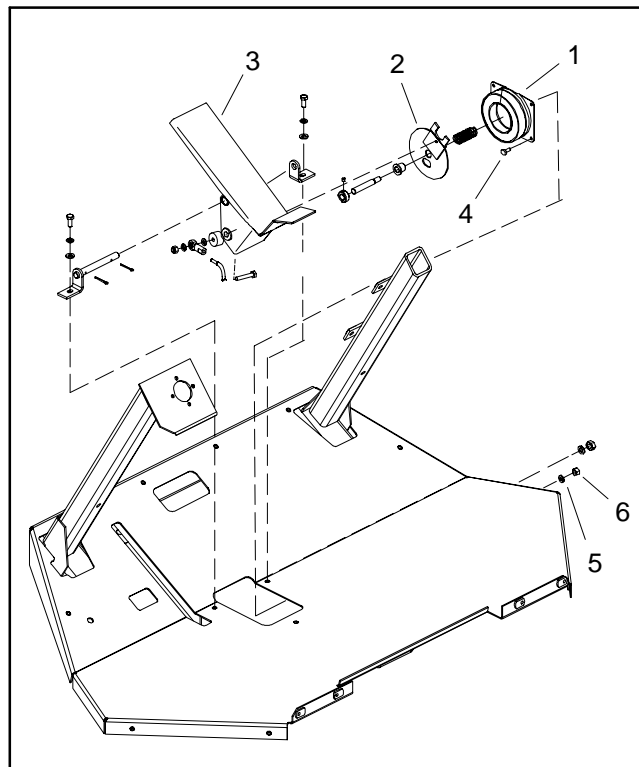

Figure 22
1. Make sure ignition switch is off. Locate speed lock coil next to traction pedal under the floorboard (Fig. 22). Unplug coil connector from machine wire harness.